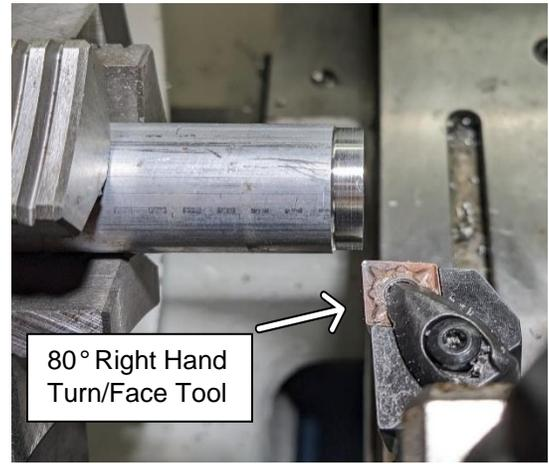

Figure 14
2. Confirm that the 80° RH TURN/FACE tool (Figure 14) is loaded in TURRET LOCATION 1. If not, ask a lab supervisor for assistance.
8. Using the X and Z handwheels, align the cutting tip so it will remove less than 0.005" from the end of the stock (Figure 14). This does not need to be a precisely measured value. The goal is to remove a marginal amount of material so the end of the stock is consistently flat.
14. Use the handwheel to steadily move in the Z- direction. Movement will automatically stop at the defined GO TO position. Now move away in Z+. Practice this a few more times in order to decrease the diameter at the end of the stock. Once comfortable with the process, make one final slow pass so the outer diameter of the turned section looks smooth and shiny (Figure 14). **After making a final pass do not move the X axis.** Move only in Z+ to position the tool a safe distance from the part.